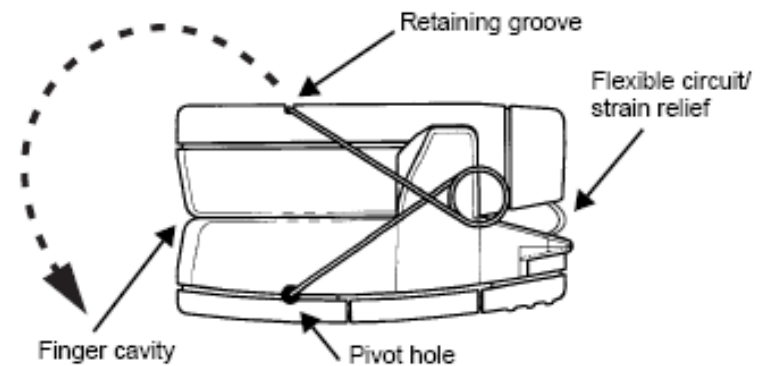

Figure 6. Disengaging and removing the spring.
1. Turn the Onyx over with the back cover facing up (Figure 6).